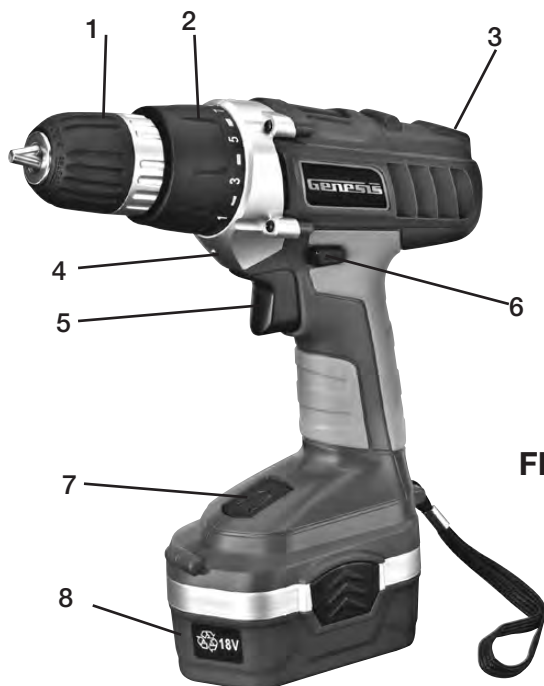

FIG 1
- Use the reversing switch (6-FIG 1) to change the direction of rotation of the drill.